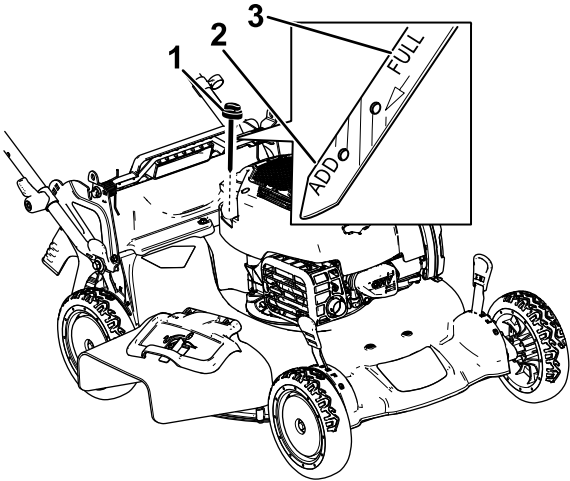

Figure 25
- 3. Remove the dipstick by rotating the cap counterclockwise and pulling it out (Figure 25).
10. Read the oil level on the dipstick (Figure 25).